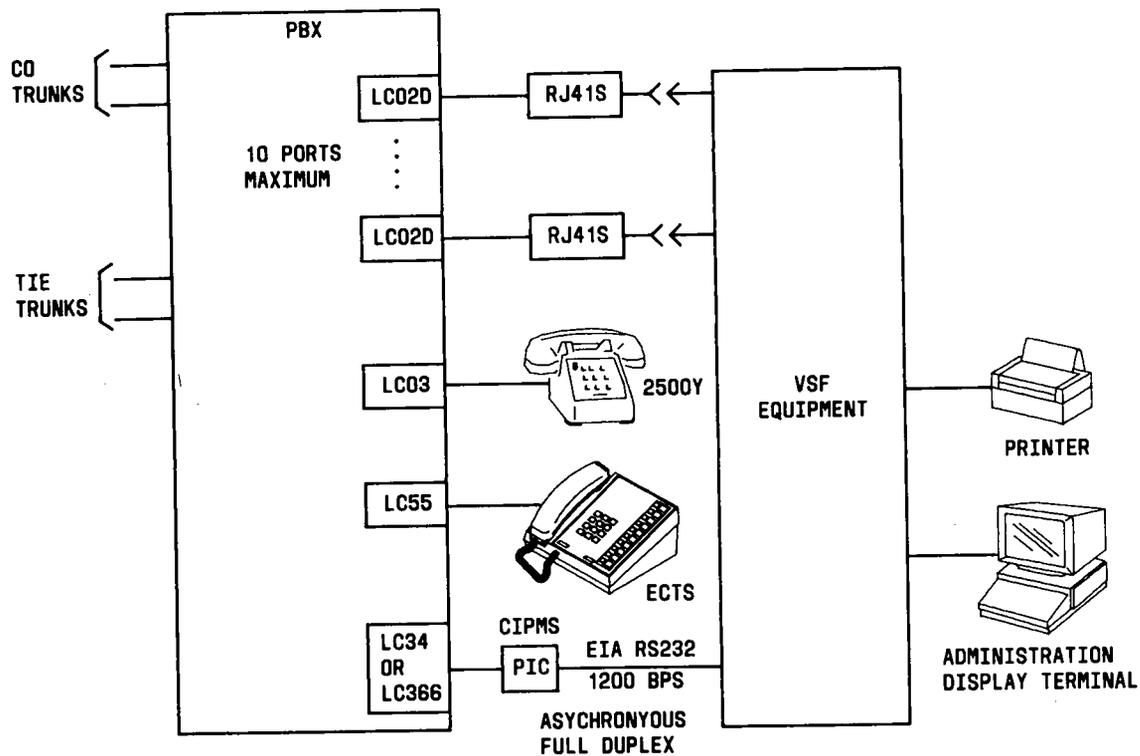

Fig. 40.1 — Voice Store and Forward Interface
3.355.2 Figure 40.1 illustrates the VSF interface.